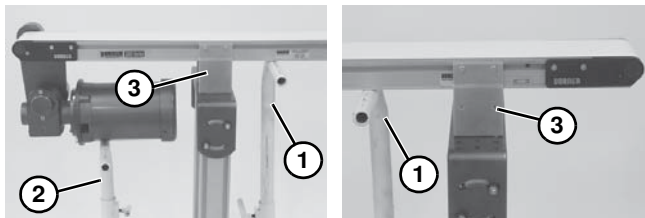
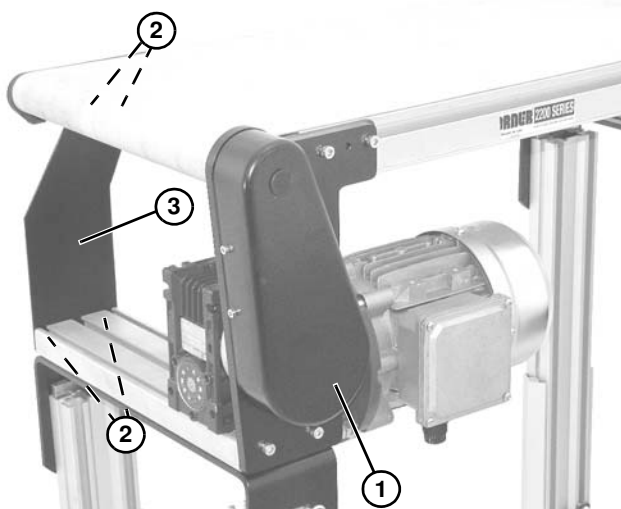

Figure 43
Figure 44
1. Place temporary support stands (**Figure 43, item 1**) at both ends of the conveyor. Place an additional support stand (**Figure 43, item 2**) under the drive motor, if equipped. See WARNING.
2. If equipped, remove mounting brackets (**Figure 43, item 3**) from one side of conveyor. (Reverse steps 3 & 4 of “Mounting Brackets” section beginning on page 11.) If equipped with heavy load drive package, remove brackets from side opposite drive cover (**Figure 44, item 1**).
3. If equipped, remove return rollers and guiding and accessories from side opposite drive cover (**Figure 44, item 1**).
4. If equipped with heavy load drive package, remove bracket screws (**Figure 44, item 2**) and drive support bracket (**Figure 44, item 3**).